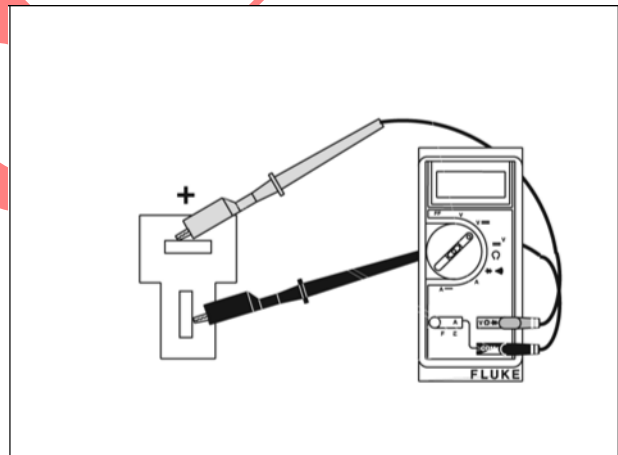

Figure 61
2. Insert meter test leads into wiring harness connector (Figure 61).